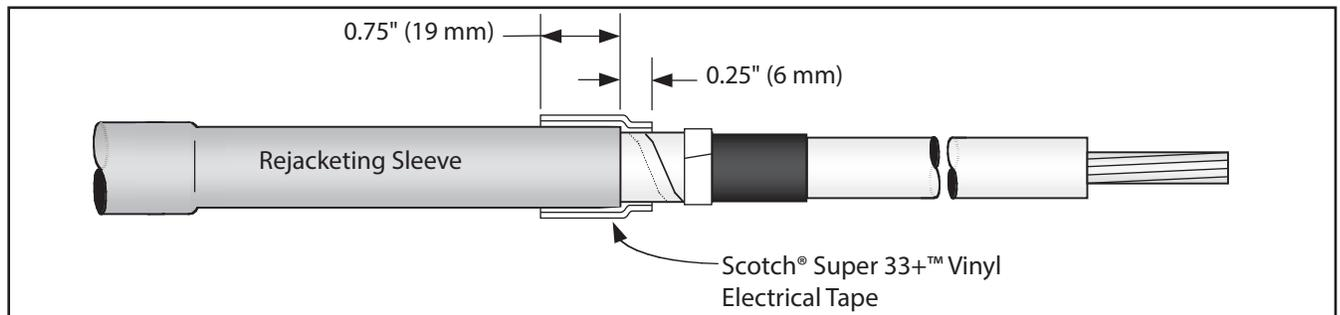

Figure 20
5.3 Secure rejacketing sleeve with two half-lapped layers of Scotch® Super 33+™ Vinyl Electrical Tape (*Figure 20*). Start taping 0.75" (19 mm) over rejacketing sleeve, extend 0.25" (6 mm) over cable metallic shield and return to starting point.